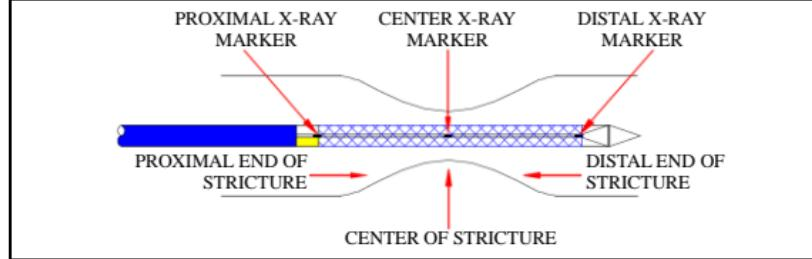

Figure 4
- d) When the center X-ray marker reaches the center of target stricture, continue pulling back on the Y-connector until the stent is fully deployed. (See figure 4, 5)